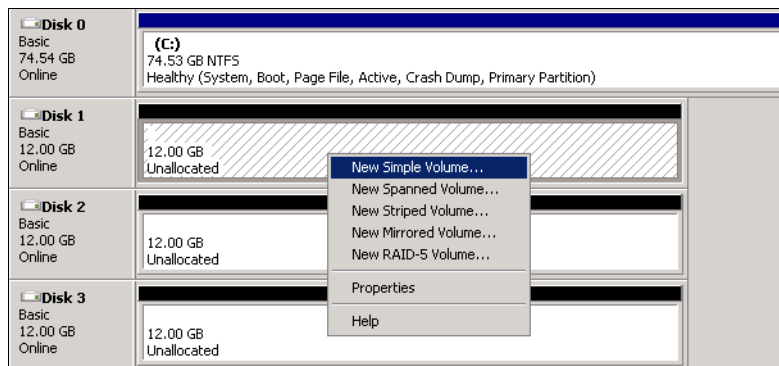

Figure 7-14 Windows Server 2008 R2: New Simple Volume
10. Right-click the deallocated disk space and then select **New Simple Volume** (Figure 7-14).